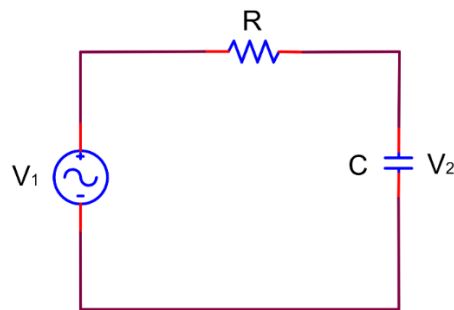

Figure 13.2
1. For the circuit in Figure 13.2: